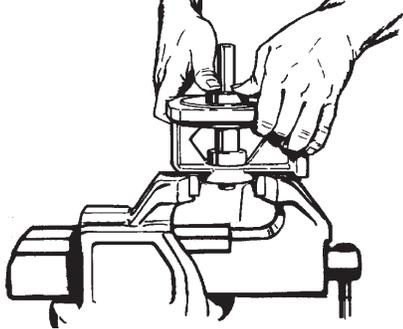

Figure 4-26
2. Place the pedestal, pump mounting surface up, in a vise or suitable fixture and insert the bearing assembly. It should be possible to install the shaft assembly with firm thumb pressure. Refer to Figure 4-26. If more force is required, the butt end of a hammer handle or plastic mallet may be helpful. The shaft assembly should never be forced or driven in.